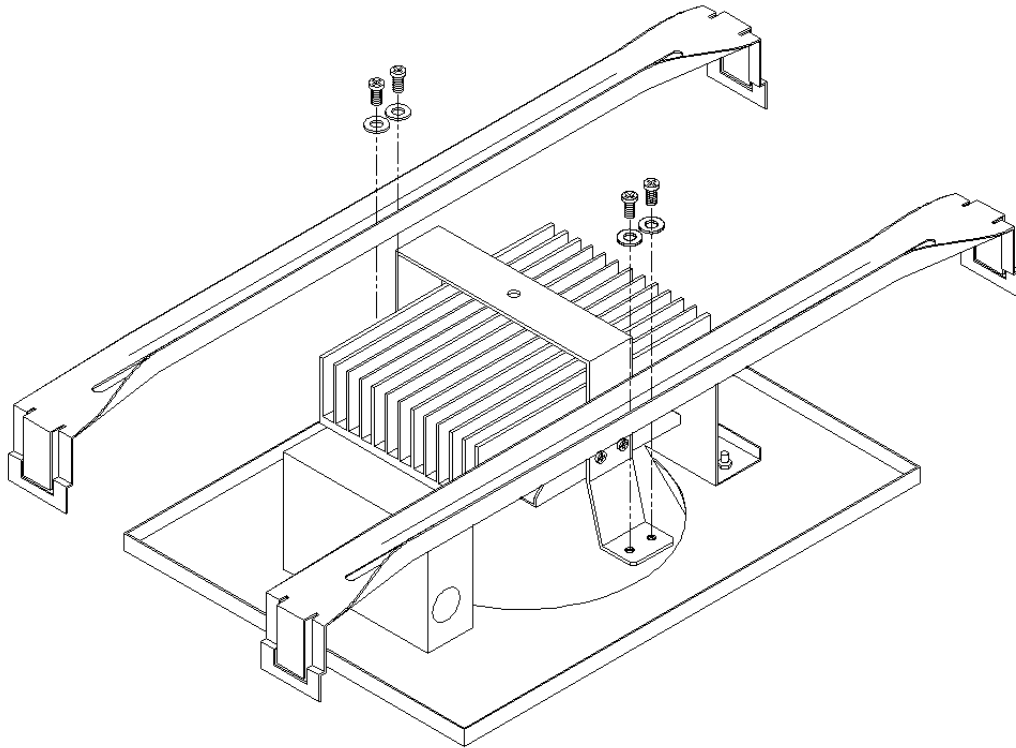

Figure 3-2
3. Using a Philips #3 screwdriver and the 4ea ¼"-20 screws and washers provided, install the T-grid support brackets to the hanging strap, approximately centered (they will be more precisely positioned during installation). See Figure 3-2.